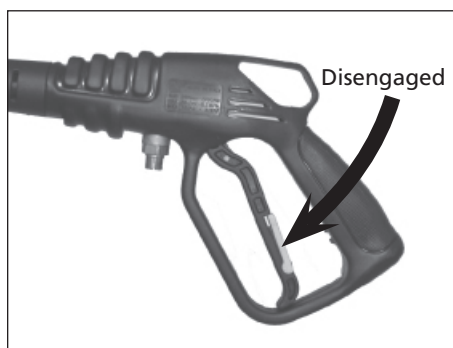

Figure 9 - Trigger unlocked
7. Start the engine. Unlock the trigger safety latch on the gun (See Figure 9). Grasp the starter rope and brace one foot on the chassis. Point the gun in a safe direction. While squeezing the trigger on the gun, pull the starter rope rapidly and firmly (See Figure 10). Continue